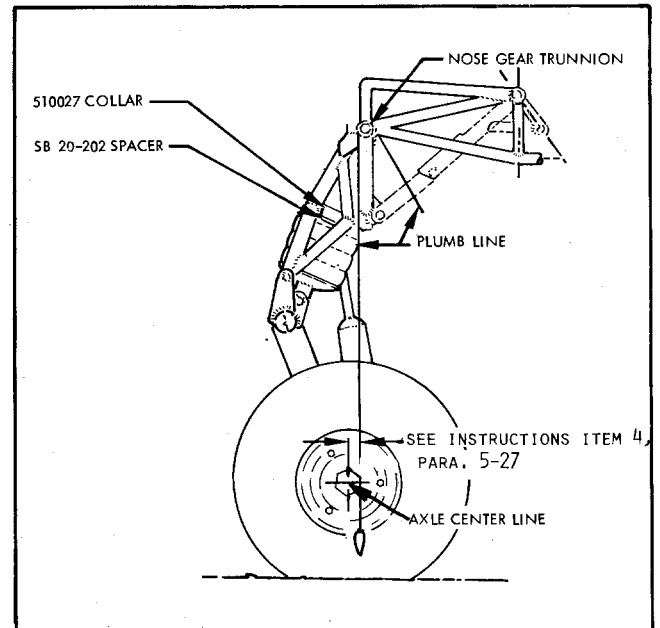

Figure 5-19. NOSE WHEEL LOCATION
3. Place plumb line over and forward of nose gear trunnion (See Figure 5-19) part number 540001-503.